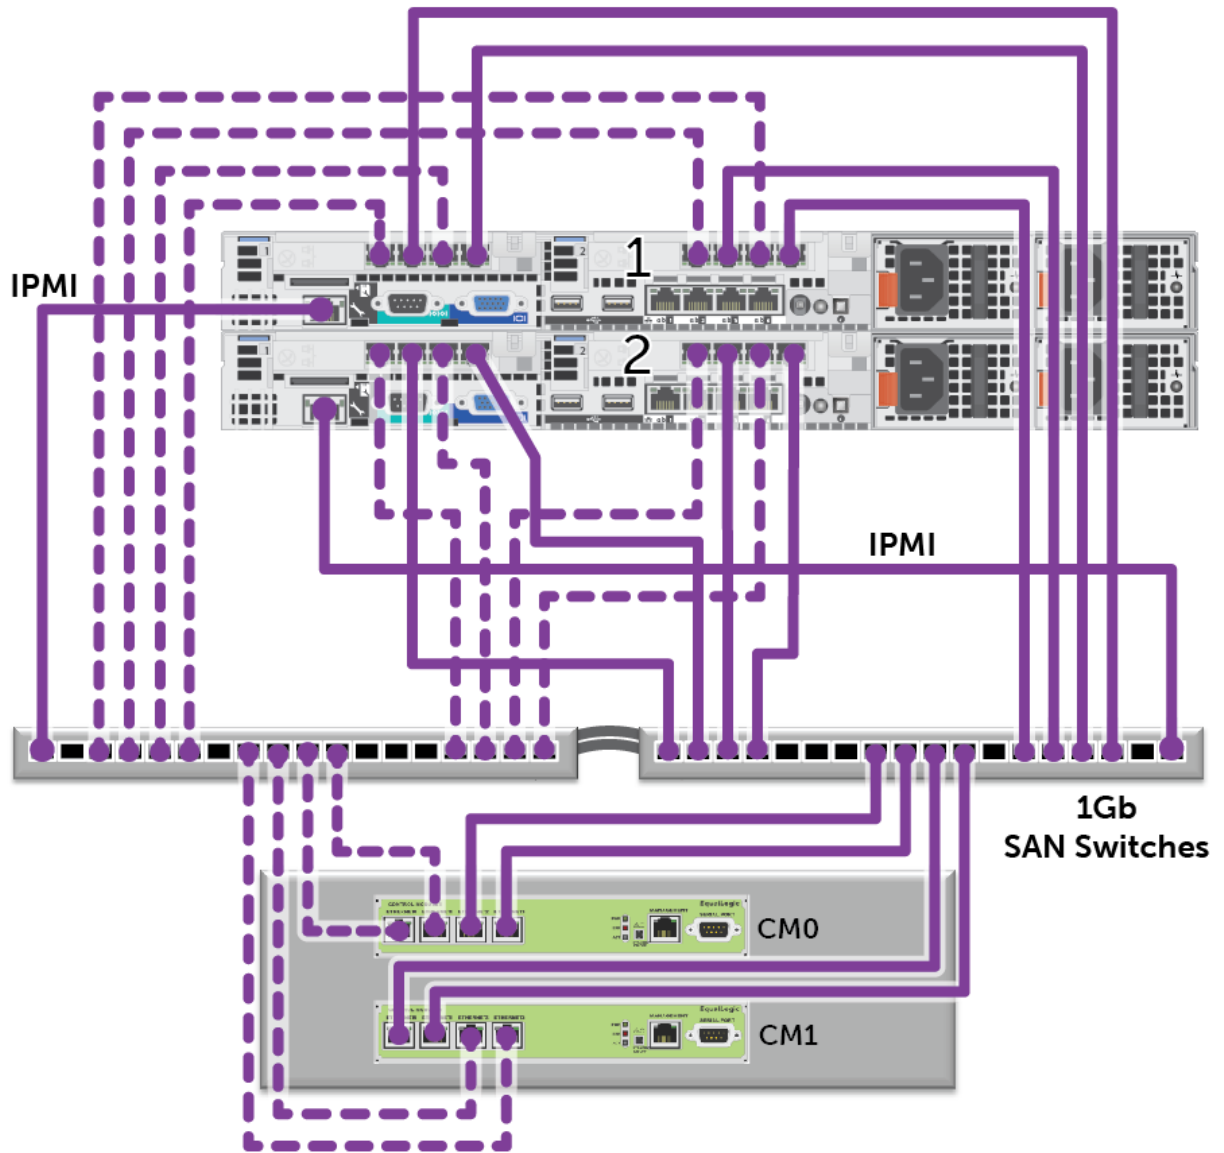

Figure 22 Connection Paths for FS7500 iSCSI SAN, IPMI and Controller Interconnect
Figure 22 below shows the iSCSI SAN, IPMI, and node interconnect paths. Pay careful attention to how the controller ports alternate between redundant switch paths.
**Note:** With the exception of the IPMI connection paths, corresponding ports on each controller node must connect to the same SAN switch. This connection pattern is shown in Figure 22.
The inter-switch connection sizing guidelines provided in section 8.2.2 also apply to FS7500 SAN design. The FS7500 mirrors the write cache between controller nodes. To accomplish this, all write operations are transmitted across the controller interconnect. Thus, it is very important to follow the connection pattern shown in Figure 22 to ensure corresponding ports are connected to the same switch. This connection pattern prevents controller interconnect traffic from crossing the inter-switch connection.